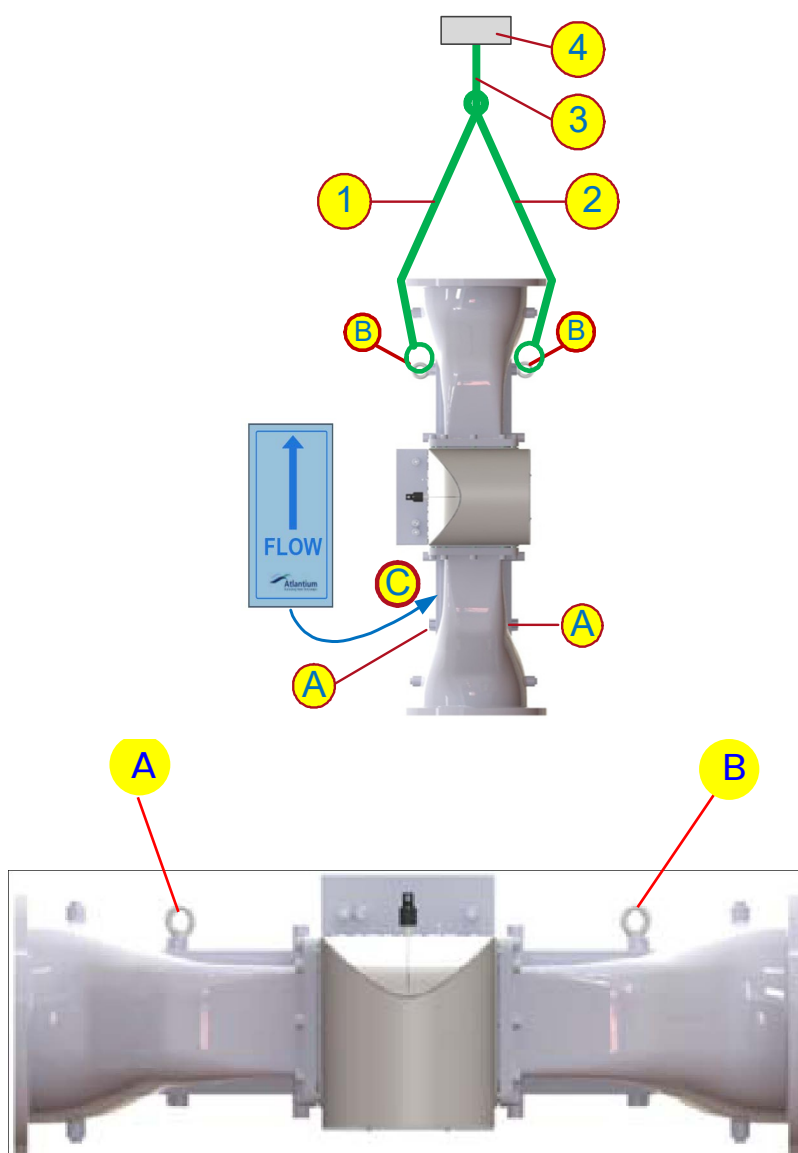

Figure 5-13: Configurations for lifting
- Note that the UV Unit is to be installed horizontally (see **Figure 5-13**). Note the sticker **[C]** on lower part of Unit, indicating the direction of the water flow. Use this information to decide at which angle to lift the Unit for transport. This is to help you to prepare for placing the Unit at the location.